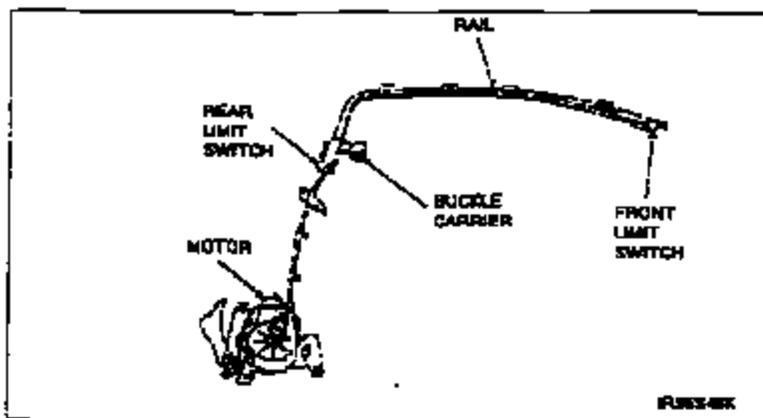

Figure 7
13. Remove the rail and motor assembly from the vehicle. See Figure 7.